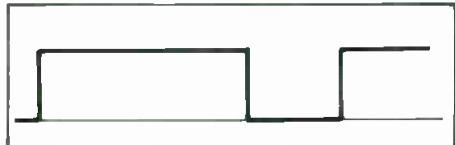
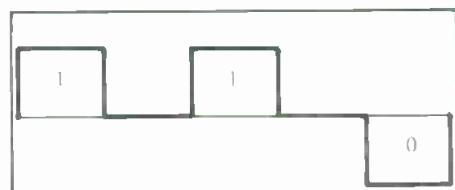

Figure 1. How many ones and zeroes are in this bit sequence?
Figure 2. A self-clocking code.
If we are to place all the data bits on one wire, we need a way to tell when one bit ends and the next one begins. Consider the bit sequence of FIGURE 1. Is that four 1s followed by two 0s, or eight 1s followed by four 0s? We need a clock to tell where the bits are. A similar type question concerns the difference between 15 1s and 16 1s. Unless we have an absolute clock time reference, we cannot make the judgement.
The simplest self-clocking code is the Return-to-Zero (RZ) code shown in FIGURE 2, with the data pattern 1101. It is a tri-valued code which returns to the zero value in between each bit, regardless of the value of the bit. A positive value signifies a 1 and a negative value signifies a 0. It is self-clocking because each bit is observable regardless of the number of similar bits. In one sense,
We are now in a position to understand one of the interesting issues for self-clocking codes: How much must the bit rate be reduced to incorporate the self-clocking feature? This question relates to the concept of a maximum bandwidth for the channel. If we had a channel with a bandwidth limitation of 10 MHz, then the direct coding of FIGURE 1 could apply a bit rate of 20 Mbits/sec, whereas the RZ of FIGURE 2 could only apply 10 Mbit/sec. The direct coding is called NRZ (non-return-to-zero). The extra return to zero does produce a major cost in bandwidth. The highest frequency of the NRZ code is a sequence of alternating 1s and 0s; whereas, the worst case for the RZ is a sequence of 1s or a sequence of 0s.